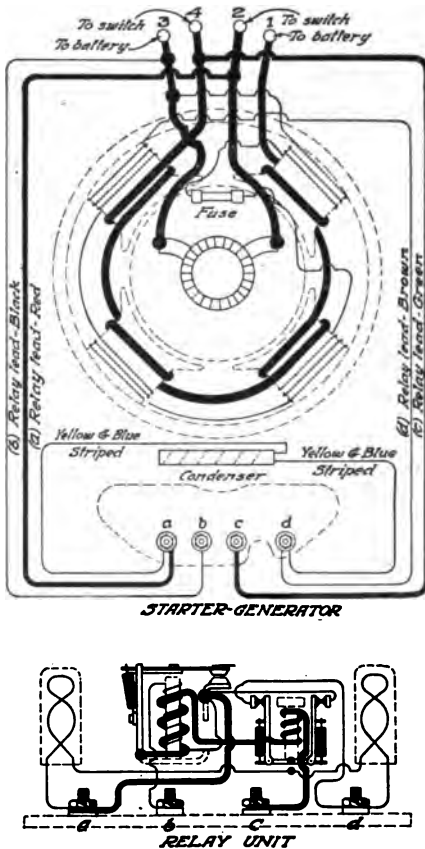
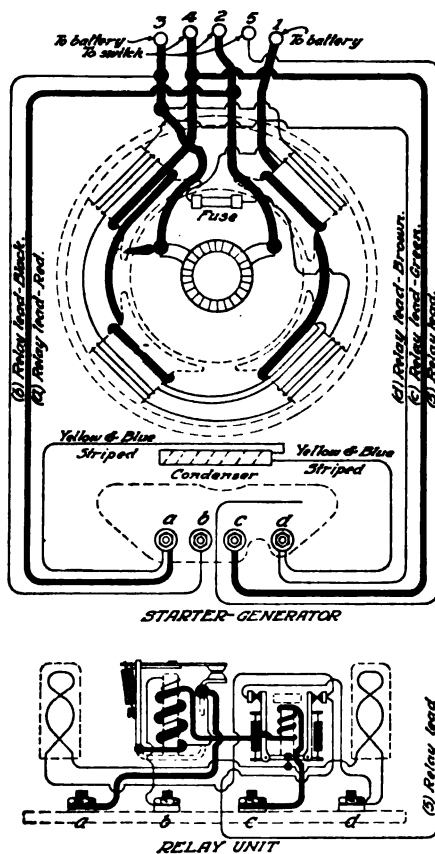

Fig. 304. Internal Wiring Diagram for North East Model "B" Starter-Generator
Fig. 305. Internal Wiring Diagram for Model "D" and Model "F" Starter-Generators
Looking at the starter-generator from the driving sprocket end, the main terminals 1, 2, 4, and 3 of the starter-generator are considered as being numbered in anti-clockwise rotation, Fig. 304. Viewing
**Five-Terminal Type Unit.** The connections on the five-terminal type generator-starter unit are made as follows: Looking at the starter-generator, Fig. 305, from the driving sprocket end, the main terminals 1, 5, 2, 4, and 3, respectively, of the unit are numbered in anti-clockwise rotation (to the left). Viewing the relay unit as
mounted on the starter-generator with the master relay at the left, the four binding posts *a*, *b*, *c*, and *d* are designated from left to right as shown in the illustration. Proceed with the instructions as given for the four-terminal type starter-generator as given. The new type relays 1196 and 1197 are regularly furnished with local connections, as shown in Fig. 304.
but it will be necessary to make the following alterations when applied to the five-terminal type starter-generator, so that the relay connections will conform to the diagram in Fig. 305. Remove the jumper lead that connects the frame of the master relay to the rear contact terminal on the limiting relay; remove from relay binding post *a* the left-hand resistance-unit lead. Lengthen this lead by splicing a piece of the same kind of wire to it, and solder it to the limiting relay contact terminal, from which the jumper has been removed. To this terminal must also be soldered the lead coming from starter-generator terminal 5. (In some starter-generators this lead includes the field fuse.)
The condenser in the early models is mounted between the field coils. One condenser lead must either be connected to the relay binding post *a* as shown in either Fig. 304 or Fig. 305 or be spliced to the wire leading to it. The other condenser lead must either be connected to the relay binding post *d* or spliced to the shunt-field wire leading to it.